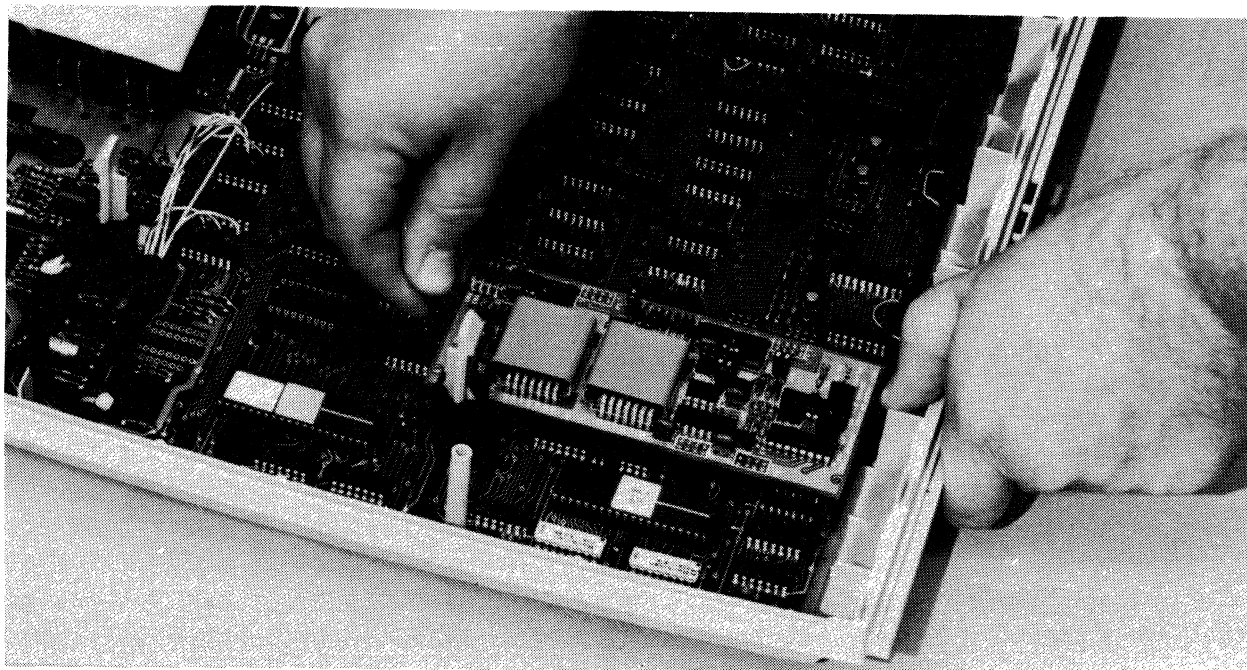

Figure 5-9. Discrete Memory Module Removal
3. Bend back the memory board retaining clips with your thumbs and lift the memory board out of its sockets with your index and middle finger as shown in figure 5-9 and 5-10. New board connectors are stiff and may require extra effort to remove them.